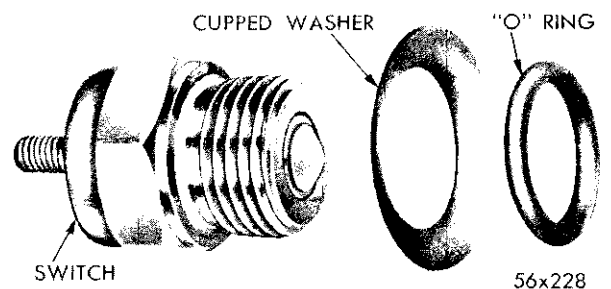

Fig. 13—Neutral Starting Switch and Seal
8. NEUTRAL STARTING SWITCH — INSTALLING AND TESTING (Fig. 13)